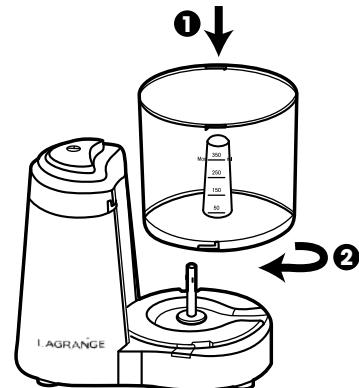

Fig. 1
- \* Put the bowl for food on the body of the blender. Lock the bowl in place by turning it clockwise until the end of the locking slot of the bowl (Fig. 1).